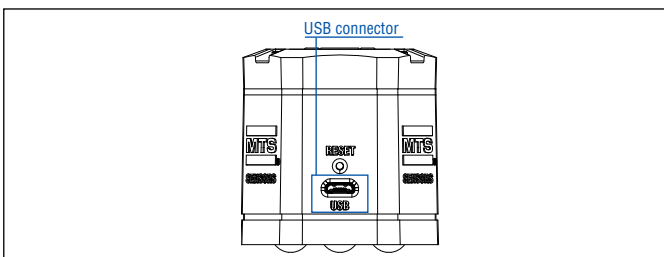

Fig. 44: USB port on the TempoLink smart assistant
1. Connect the USB cable with the micro USB connector to the port labeled “USB” on the TempoLink smart assistant (Fig. 44).